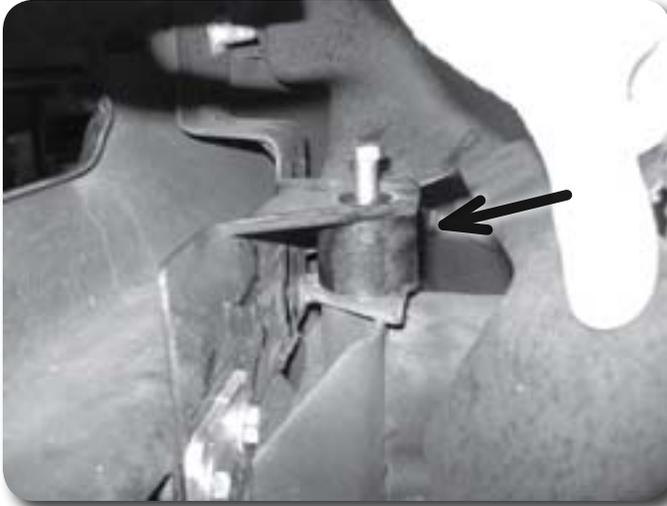

Figure 24
49. Locate the provided 2" diameter x 1-1/2" tall bumper spacers. Slide the bumper in place over the frame rails and place the spacers between the upper bumper mount tab and upper frame mount. Align the mounting holes in the bumper, frame and spacer. Loosely fasten with the provided 12mm x 70mm bolts and 1/2" washers. **Figure 24**